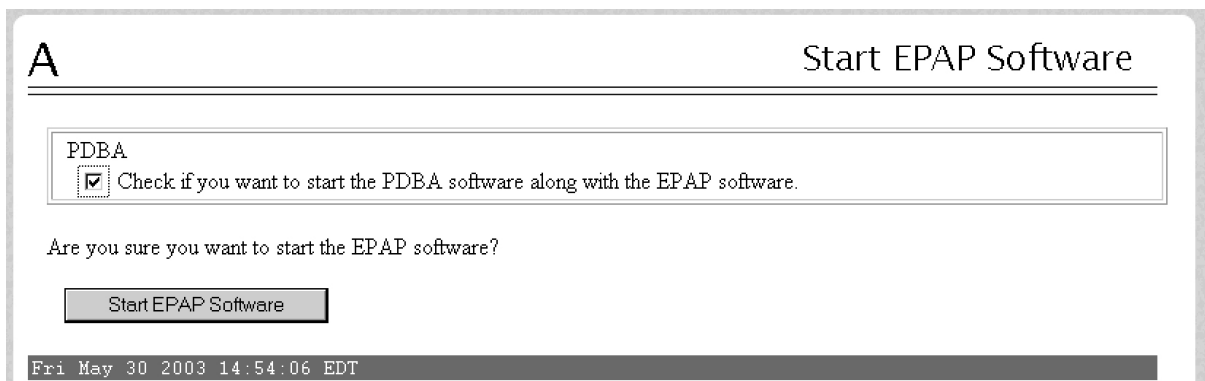

Figure 56: Start EPAP Software
7. From the **Start EPAP Software** screen, make sure the checkboxes are checked as shown in Figure 56: Start EPAP Software (this item applies only if performing this procedure on Side A):